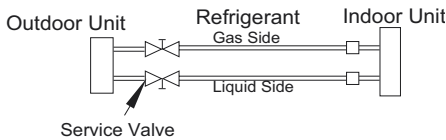

Fig. 22 — Service Valves
1. Completely tighten the flare nuts of the liquid and gas pipes on the indoor and outdoor side (for all fan coils) (see Fig 22).
2. For size 18, **DO NOT** open the Gas or Liquid service valves until the evacuation is complete. For sizes 24-48, fully open all the connected Individual Service Valves (with the line set attached). **DO NOT** open the Master Service Valves until the evacuation is complete (see Fig 22).